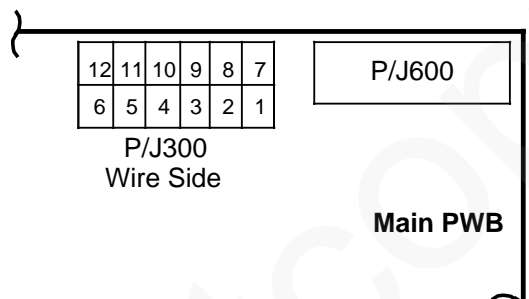

Figure 1. P/J300
- e. Measure the following voltage at P/J300 on the main PWB (Figure 1).